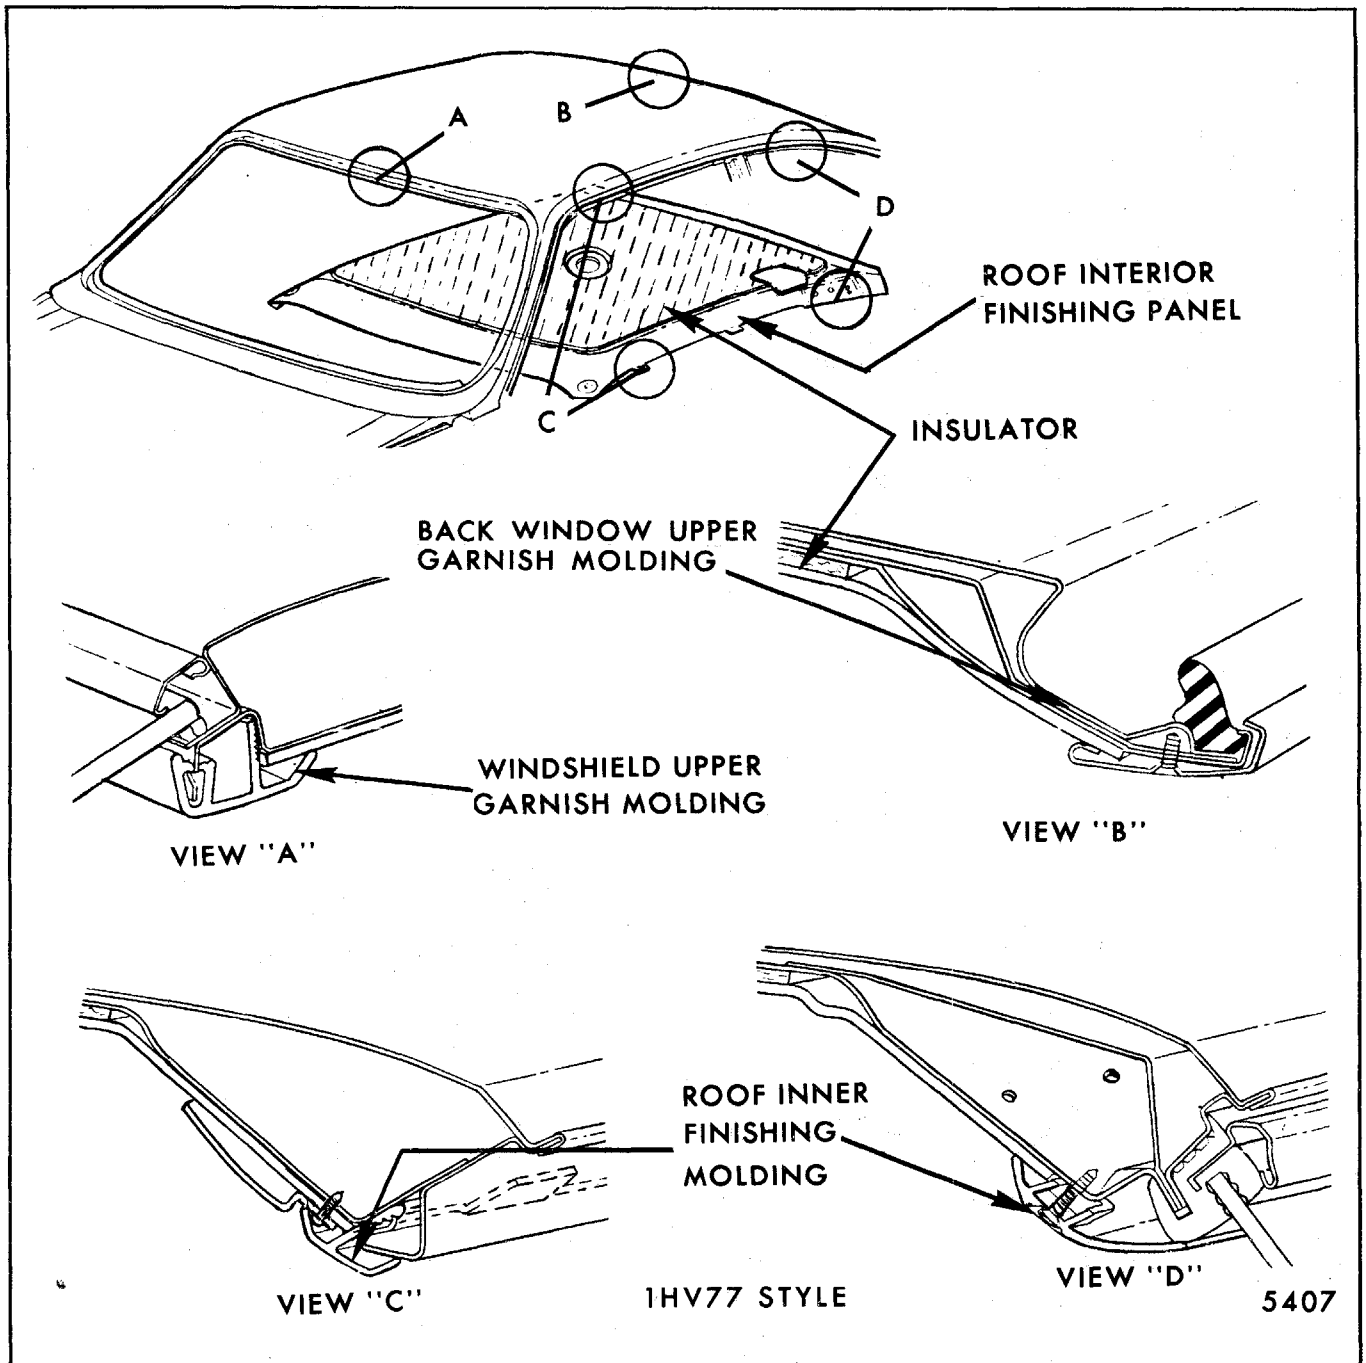

Fig. 8-7-Headlining (Roof Interior Finishing Panel) Assembly - "77" Styles ("07" Styles Similar)
The one-piece formed headlining on "B,C,F and X" styles consists of molded hardboard covered with a foam and cloth or vinyl facing. The "B" station wagon headlining is two-piece which uses a molding to close out the joint of the front and rear section. The molding engages to a retainer which attaches to slots in the roof panel (Fig. 8-4, Section A). On "H" styles the headliner is a scored and folded grained perforated hardboard with an insulator cemented to the upper surface. The headlining is held partially in place by retaining tabs located in the side roof rail which engage recessed slots in both sides of the headlining assembly. Final attachment is accomplished when the interior moldings and attaching screws that retain the sunshade brackets, dome lamp base, coat hooks and shoulder strap retainer covers are installed (see Figs. 8-7, 8-8 and 8-9).
2. Disengage tabs or clips on each side of the headlining assembly from the attaching slots and move the assembly rearward enough to provide clearance for the front portion of the assembly to unload through front door opening (see Figs. 8-7, 8-8 and 8-9). On "B-35" styles, use tool J-2772 or equivalent at one end of the molding and pry molding loose from retainer and remove molding.